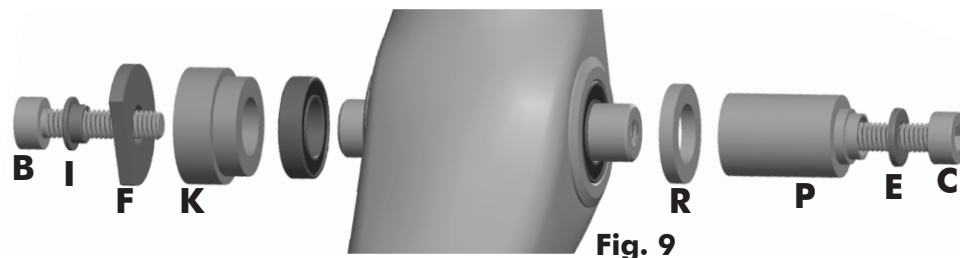

Fig. 9
4. To assemble the second bearing in the Seat Tube Pivot, first slip the Link Axle through the bearing you just installed in step 3, then assemble the tools as shown in Fig. 9. Tighten the tool assembly using two 5mm Allen/Hex Wrenches, one in each screw, to draw the second bearing over the axle and into the frame.